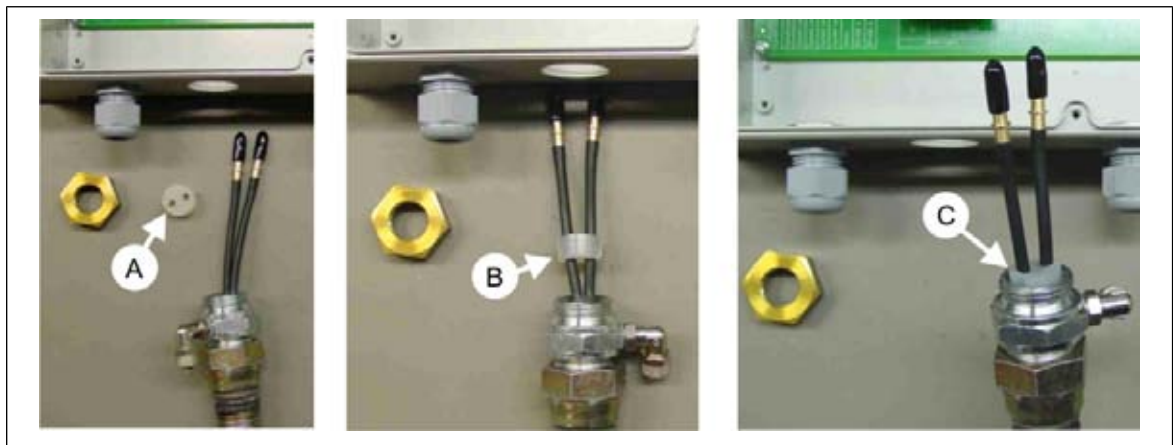

Fig. 2.7. Multi air seal inserting.
3. Place the multi air seal on top of the fiber-optic cables, fig. 2.7. point A & B.